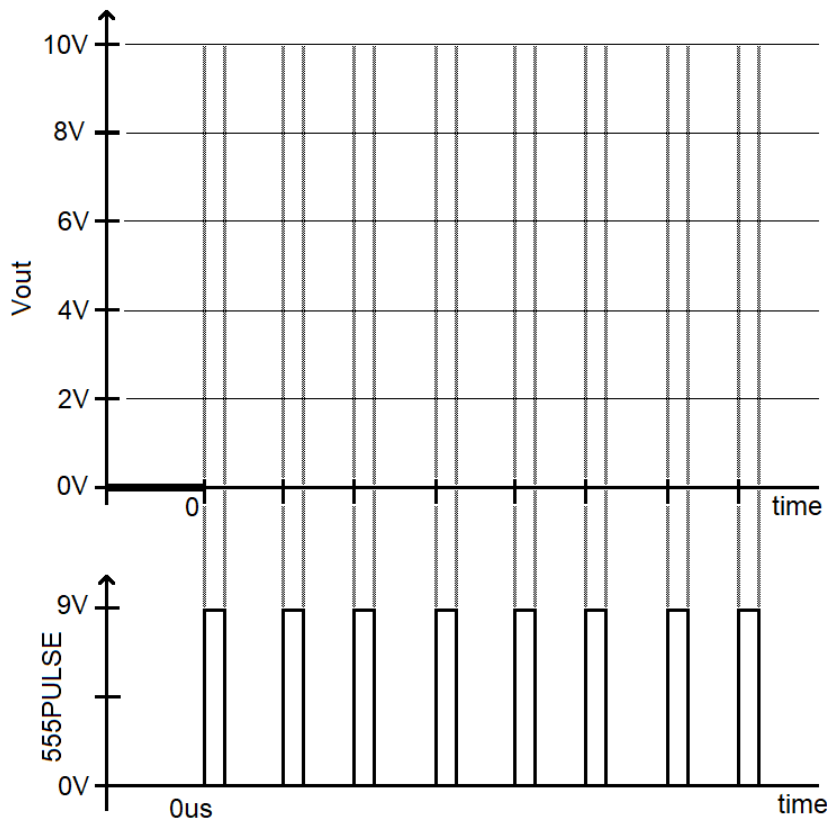

Figure 3: Complete the V_{out} curve generated by the Deboo Integrator circuit when the 555 pulse train is applied.
3. Assume that the V_{out} of the Deboo Integrator is initially at 0V as shown in the upper graph of Figure 3. The lower graph shows a sequence of pulses from the 555 Timer being applied to the input of the Deboo Integrator. Draw the resulting voltage vs. time graph of the V_{out} .